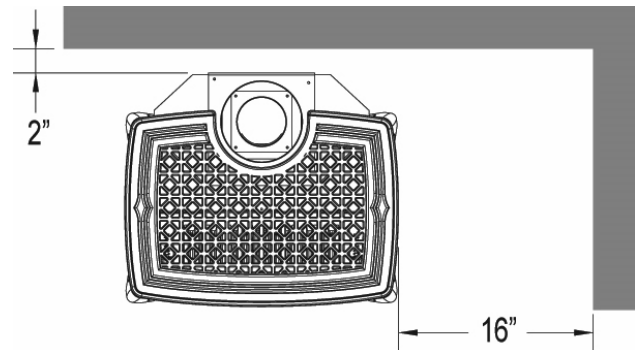

Figure 14 - Minimum Wall Clearances
4. Pull forward and disengage the spring clips securing the top of the glass frame. See Figure 14. Tilt the top of the glass frame outward and lift it off the studs on the bottom – set carefully aside.